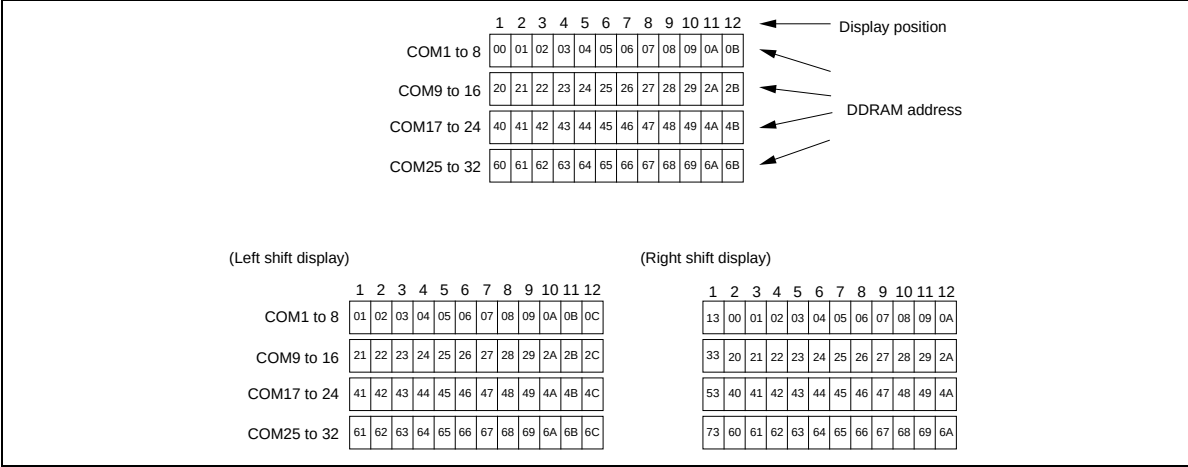

Figure 8 4-Line Display
- Note that the DDRAM addresses of each line are not consecutive. Figure 8 shows an example where a 12×4 -line display is performed using one HD66712.